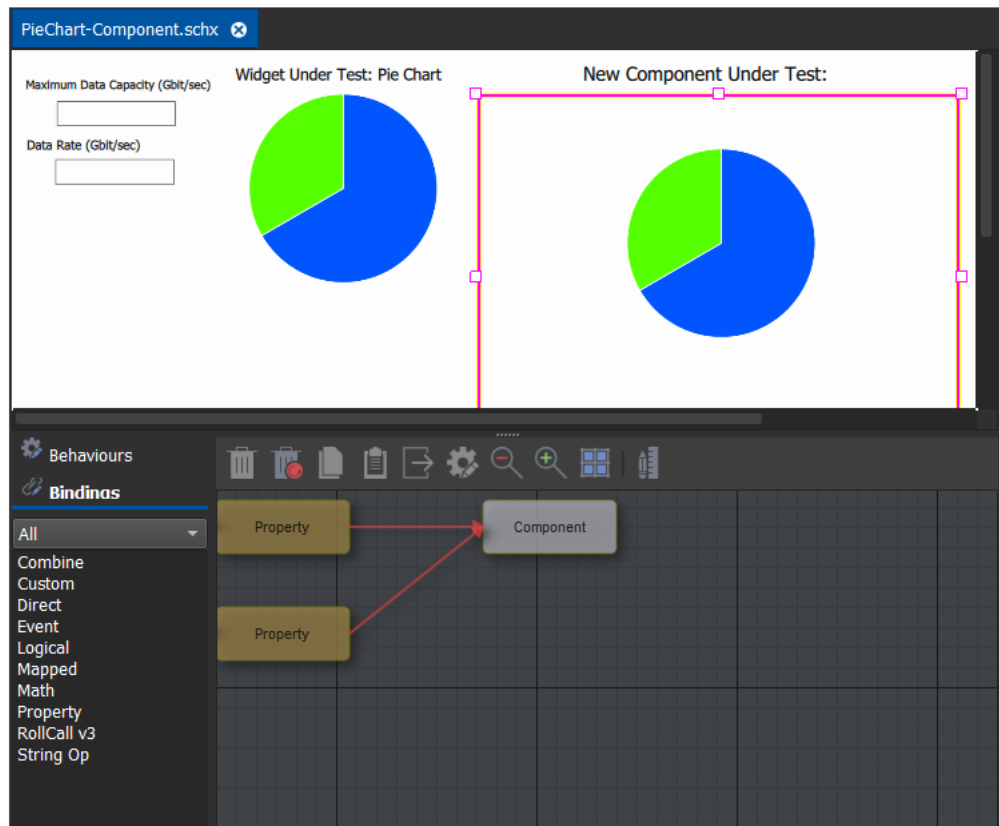

Fig. 4-26: Two Property Bindings Added
- 5 Add two **Property** Bindings to the graphical editor screen. See Figure 4-26.